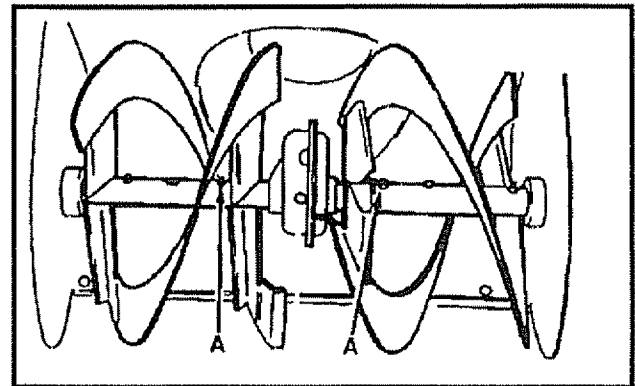

FIG. 16
- Auger Shaft - For storage, lubricate auger shaft (See Fig. 16) with a clinging type grease such as Lubriplate. When replacing shear bolts, remove shear bolts and lubricate auger shaft (see To Replace Shear Bolt paragraph on page 24).